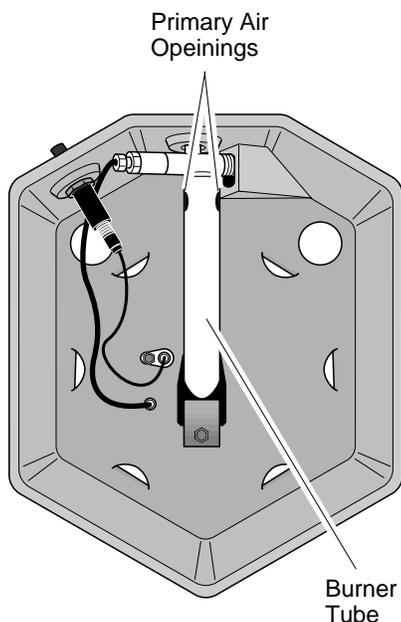

Figure 6 - Bottom View of Heater
Look through the ventilation holes in the top of the heater to see the burner flame. The burner flame should be mostly blue with slight yellow coloring on the ends. If the burner flame is mostly yellow, the primary air openings on the burner tube under the heater base may be blocked (see Figure 6).
2. Turn heater over to locate the primary air openings on the burner tube (see Figure 6). Remove any debris blocking the primary air openings.